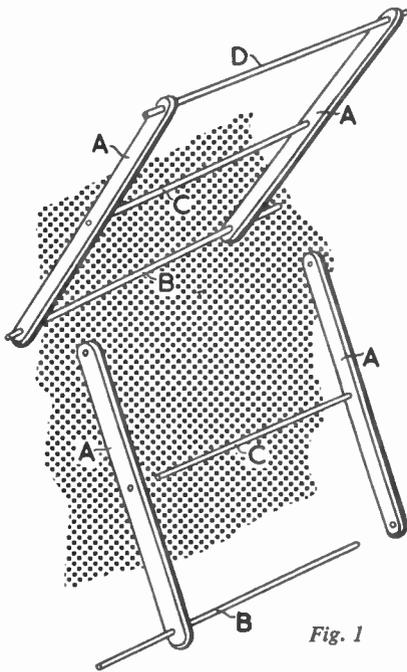

Fig. 1
No actual measurements are shown because these will depend upon your own personal requirements. The pieces (A) are of  $1\frac{1}{2}$ in. by  $\frac{3}{4}$ in. stripwood and can be between 2ft. and 3ft. in length. Each piece is drilled to take  $\frac{1}{2}$ in. round rod as shown in the exploded view in Fig. 1.